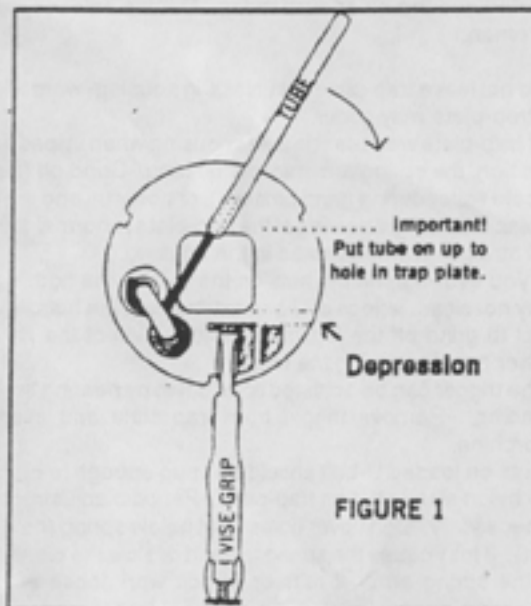

FIGURE 1
**Setting Trap Plate -** Firmly clamp the vise-grip in the corner of the trap-plate post tight enough to avoid slippage. Insert the steel tube over the spring arm to the junction of the trap-plate opening as illustrated in Figure 1. Lower the trigger so steel spring-holder is free to rotate back and forth to the post.